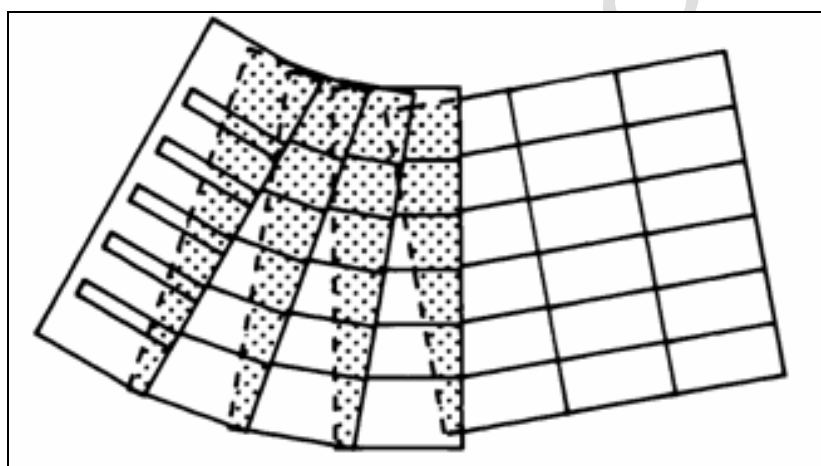

Fig. 20 - Method 2
- Method 2 - Mattresses are to be overlapped to form curves (Fig. 20).